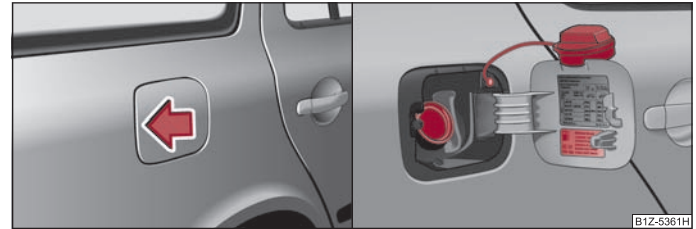

Fig. 11 Right rear side of the vehicle: Open fuel filler flap/fuel filler flap with cap unscrewed
- Press in the middle of the left area of the fuel filler flap in direction of arrow ⇒ fig. 11 - left.
- Unscrew the fuel filler cap anti-clockwise and place the fuel filler cap from above on the fuel filler flap ⇒ fig. 11 - right.